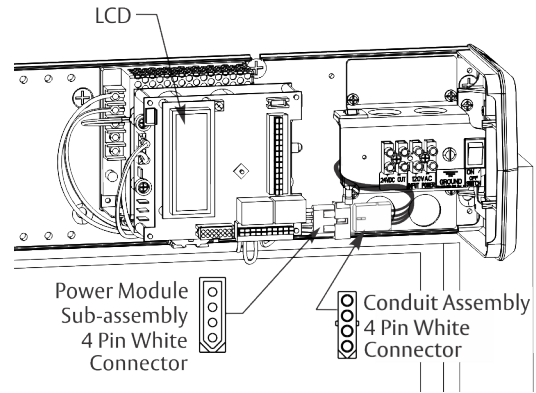

Figure 14
NOTE: Orient assembly so LCD screen on inverter is toward closer assembly. (Figure 14)
2. Attach 4-pin white rectangular connectors between power module sub-assembly and conduit assembly. (Figure 14)